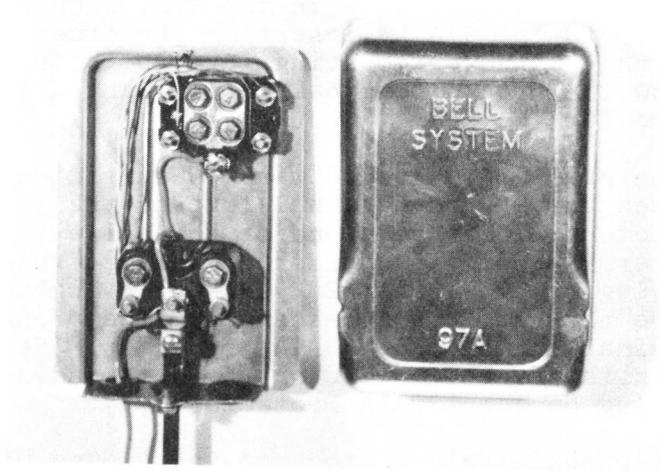

FIGURE 10
- 7.13 Using the top (circular) hole in the 97A, secure the 128A1A-2 Protector to the 97A by inserting one of the self-tapping screws supplied with the protector mounting into the hole in the 128A1A-2 Protector to the left of the ground terminal lug. Tighten the screw securely. See Figure 10.
- 7.14 Using the bottom (circular) hole in the 97A, secure the 123A1A Protector to the 97A by inserting the other self-tapping screw supplied with the protector mounting into the hole in the 123A1A directly below the ground terminal lug. Tighten the screw securely. See Figure 10.
- 7.22 Terminate the conductors under the bottom nut of the binding posts on the protectors as shown in Figure 10. The top binding posts of the 128A1A-2 Protector will be for the White-Blue pair, the bottom binding posts of the 128A1A-2 Protector will be for the White-Orange pair. The White-Green pair shall be terminated on the binding posts of the 123A1A Protector.